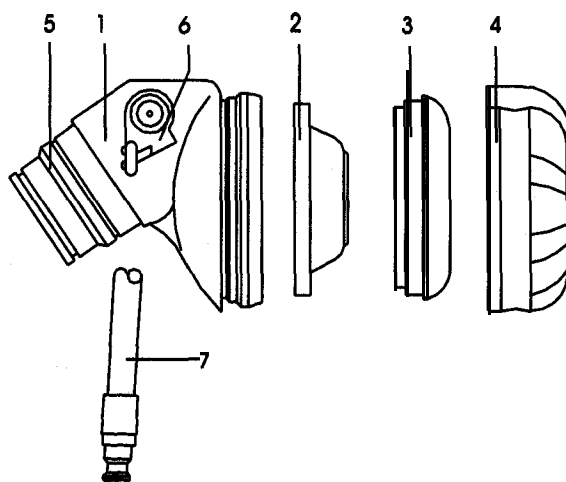
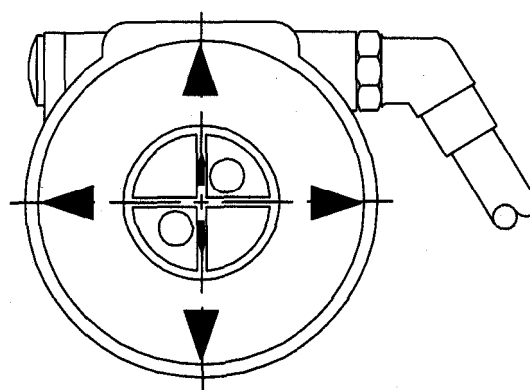

Figure 4
Figure 5
(Figure 4)
- Remove rubber cover (4) and using peg spanner (P/N 1628089) unscrew bayonet cap (3).
- Depress donning lever (6).
- Carefully remove diaphragm (2) by unhooking it from its central location on lever of balanced piston assembly.
- Relocate new diaphragm onto balanced piston lever inserting outer bead of diaphragm into locating groove in demand regulator body (1). For correct orientation see Figure 5.
- Moisten lip of bayonet cap with water • refit bayonet cap (3) and tighten with peg spanner (P/N 1828089). Check diaphragm position (Figure 5). Note alignment of arrows.
- Press reset lever (6) • positive pressure type only • to lift diaphragm towards bayonet cap • release reset lever and check that diaphragm has remained in position.
- Fit rubber cover (4).
- Remove rubber cover (4) and using peg spanner (P/N 1628089) unscrew bayonet cap. (3) (Figure 4)
- Depress reset lever (6) (Figure 4) - positive pressure type only.
- Carefully remove diaphragm (2) (Figure 4) by unhooking it from its central location on lever of balanced piston assembly.
- a) Unscrew push-in connector (5) (Figure 4) counterclockwise from demand regulator body.
- Press reset lever and locate diaphragm (2) (Figure 4) onto end of balanced piston lever ▪ insert outer bead of diaphragm into locating groove in demand regulator body. Ensure correct orientation. (Figure 5)
- Moisten lip of bayonet cap with water ▪ refit bayonet cap (3) (Figure 4) and tighten with peg scanner (P/N 16 28089). Check position of diaphragm. (Figure 5) Note alignment of arrows.
- Fit rubber cover (4) (Figure 4).